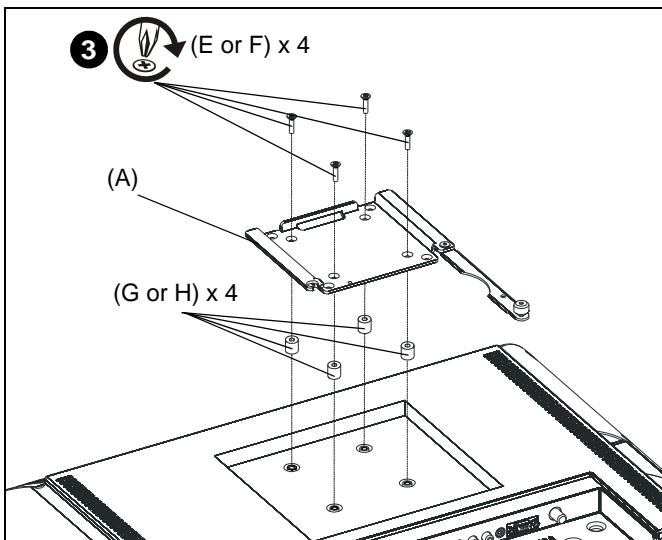

Figure 2
3. For recessed mounting holes, install either four M4 x 20mm or four M4 x 30mm Phillips flathead machine screws (E or F) through corresponding bracket holes and four spacers (G or H) and into holes on back of display. (See Figure 2)